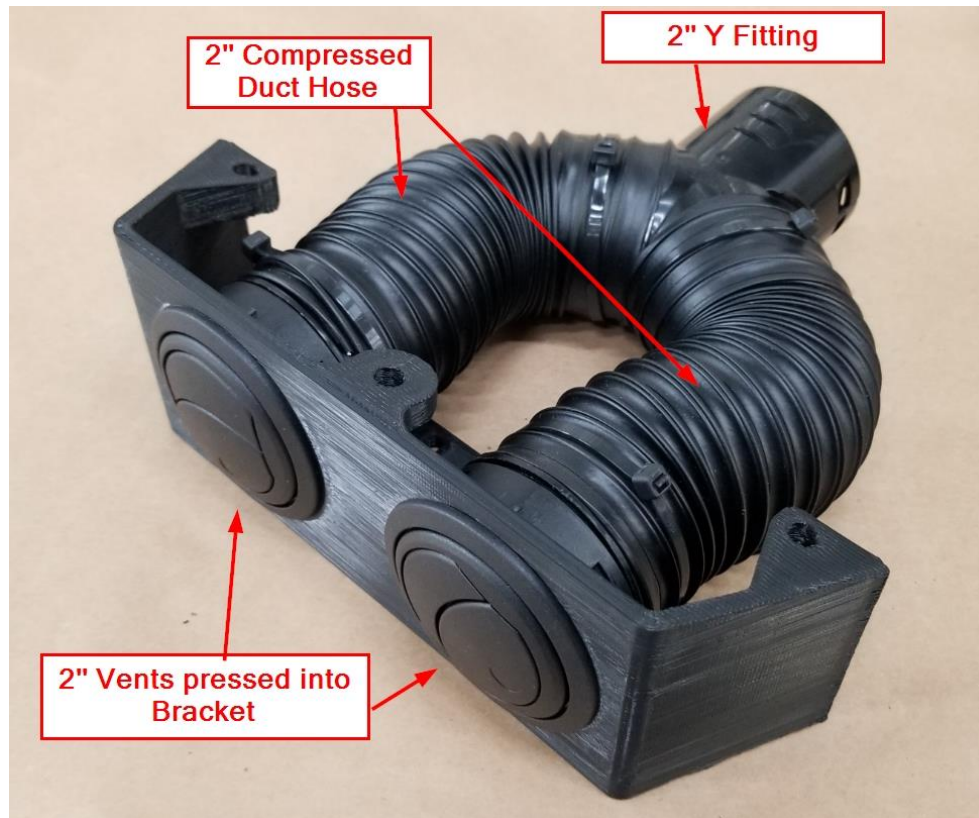

Figure 22
- p. Cut 2" Duct hose according to Figure 22, attach it to the remaining 2" Plastic Y using Zip Ties. Insert the 2" Vents into the Bracket (Figure 22 shows a prototype bracket, the final version is slightly different but materially the same). Attach the 2" Duct hose to the 2" Vents.